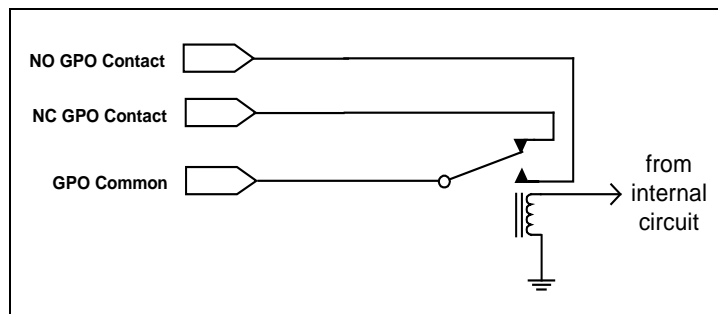

Figure 2-2: GPO Configuration
GPO's: The 3 pin terminal strip is used for the General Purpose Outputs (GPO). Pin1 and Pin2 refer to GPO1 and GPO2 respectively, whose behavior (NC/NO) can be selected by a jumper. (Refer to section 5.1 for Jumper Positions). Signal on GPO Common (C) is to be provided by the user. A minor alarm between Common and GPO1 is triggered in a state of RF outside of threshold and major alarm between Common and GPO2 is triggered in a state of Laser failure and/or LNB short. Each GPO output is a set of normally open and normally closed relay contacts as shown in Figure 2-2.